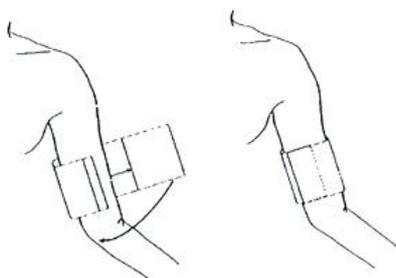

Fig. 8-1 Using Cuff
2. In accordance with the following method, tie blood pressure cuff on the arm or the thigh of the patient (Fig. 8-1).